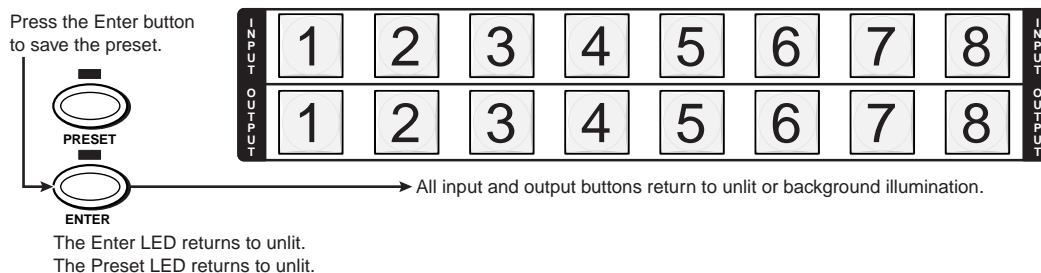

Figure 3-31 — Press the Enter button
4. Press and release the Enter button (figure 3-31). The current configuration is now stored in memory location 1.